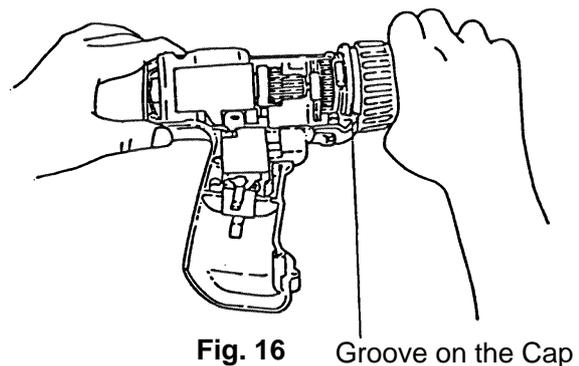

**Fig. 13**
- [3] Align component positions so that the Thrust Plate ⑪ and the protruding portion of the Spring Holder ⑨ do not overlap. Insert the Final Gear ⑮ horizontally by holding it between the thumbs. (Fig. 13)